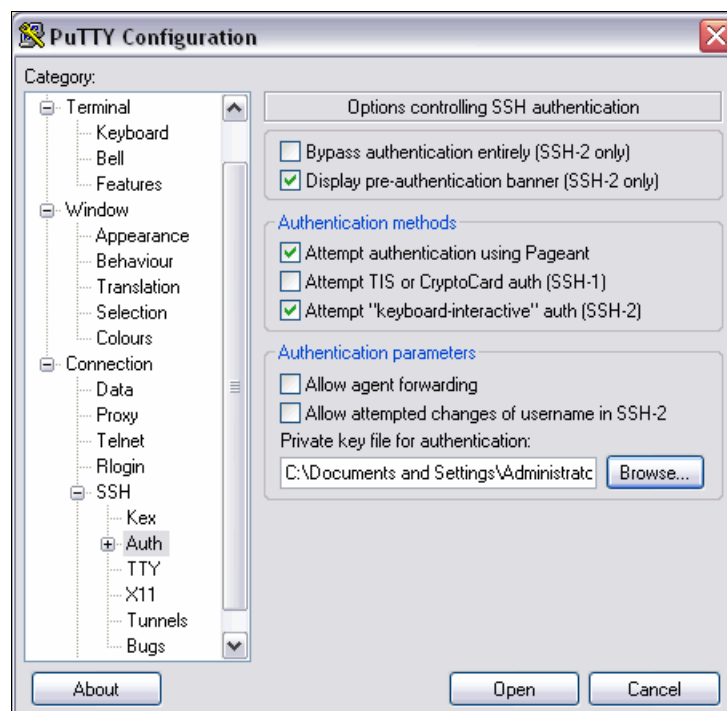

Figure 16-23 Configuring the SSH private key
- The private key for authentication (for example, `icat.ppk`), which is the private key that you created. To set this parameter, select **Connection** ▾ **SSH** ▾ **Auth** in the left pane of the PuTTY Configuration window, as shown in Figure 16-23.